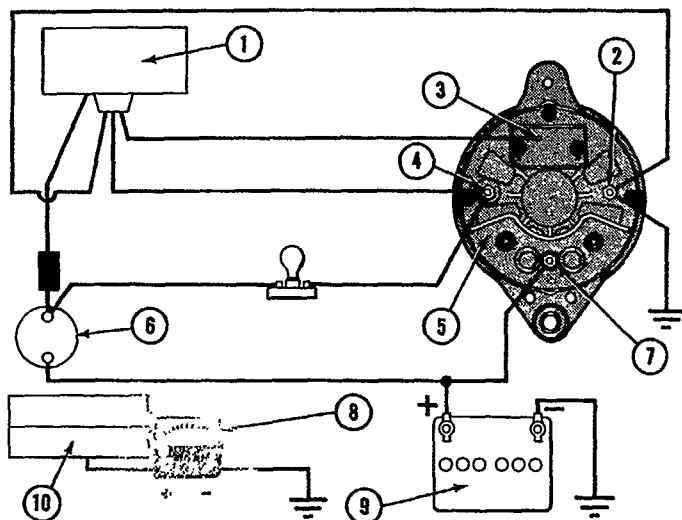
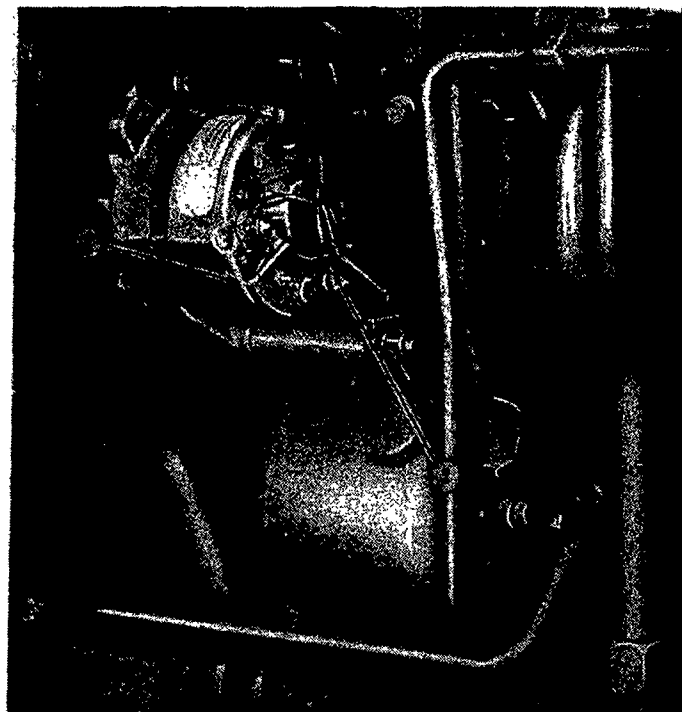

Figure 15
Figure 16
1. This test will determine if the tractor battery is properly installed and if the isolation diode is functioning properly by keeping battery voltage off of the alternator auxiliary terminal, Figure 15. A shorted isolation diode will allow the battery to discharge through the voltage regulator. The charge indicator light will "burn" when the key is off if the isolation diode is shorted.
2. Connect the voltmeter negative lead to ground and the positive lead to the output terminal at the isolation diode heat sink, Figure 15. The voltmeter should indicate battery voltage.
3. Move the positive voltmeter lead to the auxiliary terminal, Figure 15. The voltmeter should read zero volts. If the voltmeter continues to indicate battery voltage, either the isolation diode is shorted, or the output lead is contacting the isolation diode heat sink, Figure 16, allowing battery current to bypass the isolation diode. Loosen the nut and reposition the output lead if necessary.